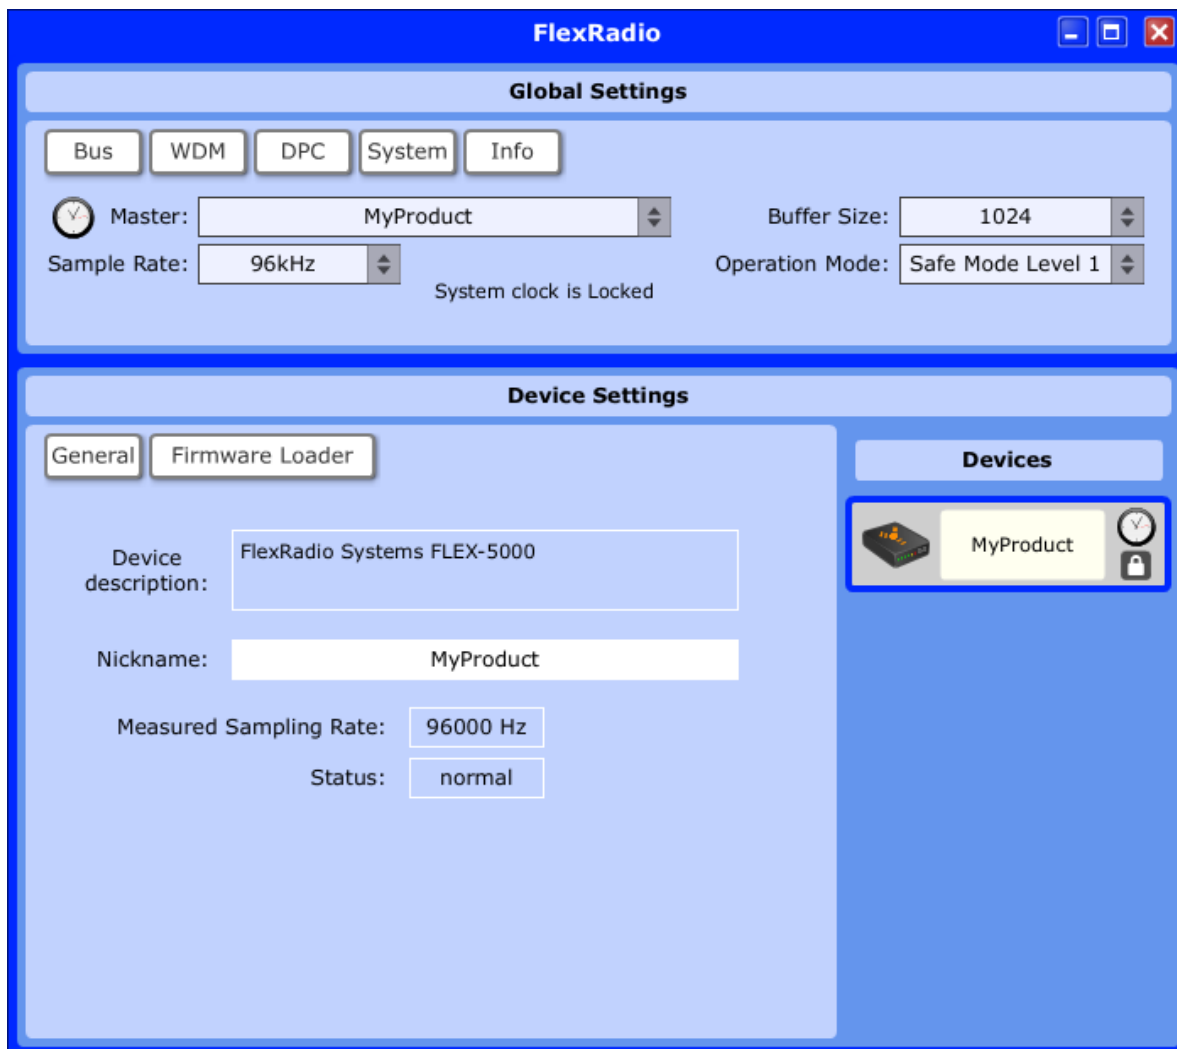

Figure 148: FlexRadio Driver Control Panel - Default View
The FlexRadio Driver comes with a Control Panel which enables you to verify and set various parameters. To open the Driver Control Panel make sure your FLEX-3000 is turned on and then double-click on the FlexRadio Driver's desktop icon you created during installation. Alternatively, click on Start → All Programs → FlexRadio Systems → FlexRadio. You will see the Control Panel as shown in Figure 148.
- ❑ **Master** displays the **Nickname** of your FlexRadio. The default **Nickname** is *MyProduct*, as shown in Figure 148 on page 159. (You can change this to any nickname you desire by clicking on the **Nickname** displayed in the lower **Device Settings** section).
The lower Device Settings section has two buttons which act as tabs: **General** and **Firmware Loader**. (see Figure 148 on page 159).
- ❑ **Measured Sample Rate** should equal the **Sample Rate** shown in the Bus Global Sections panel (see Figure 148).